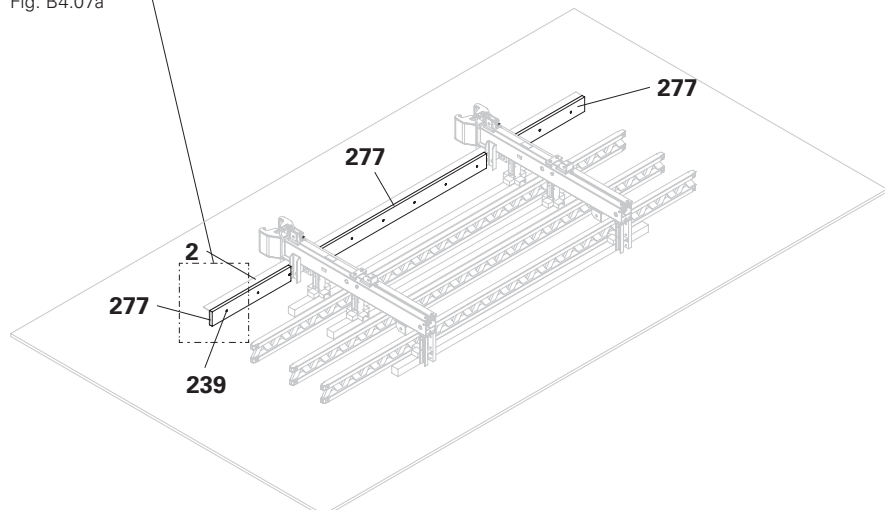

Fig. B4.07
- Cut 3x board 4 x 20 (277) to length to fit angle ACS (2).
- Pre-drill boards (277) with Ø 9 mm.
- Screw to the angle (2) with F.H. bolts DIN 603 M8 x 65 MU (239).
- (Fig. B4.07 + B4.07a)